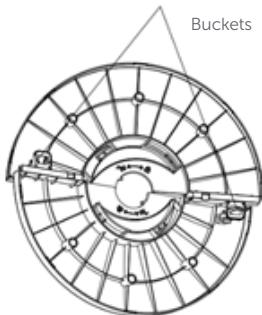

Figure 1
3. Take both parts of the base from the kit and turn them upside down, align the docking frames at an angle with their corresponding buckles on each part, then fasten by pressing (Fig. 1). Align the buckled halves with each other.